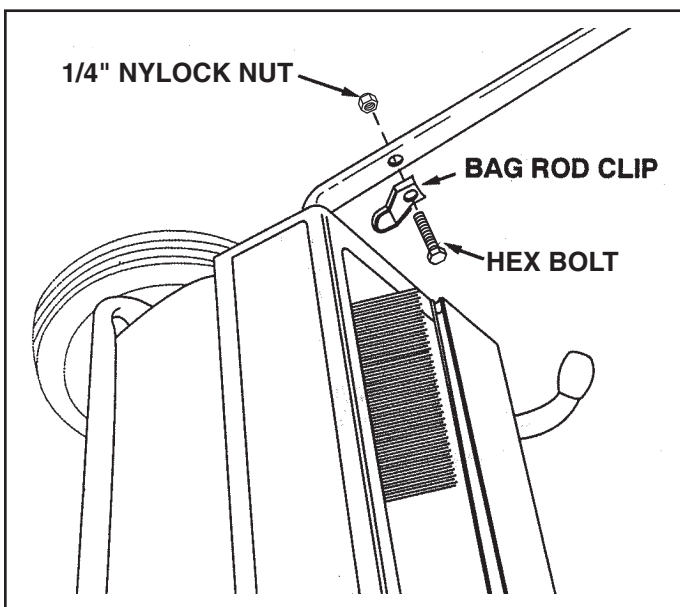

FIGURE 4
6. Assemble a bag rod clip to the inside of each lower handle tube using a 1/4" x 1-1/4" hex bolt and a 1/4" nylock nut as shown. The clips should face towards the sweeper housing. See figure 4.